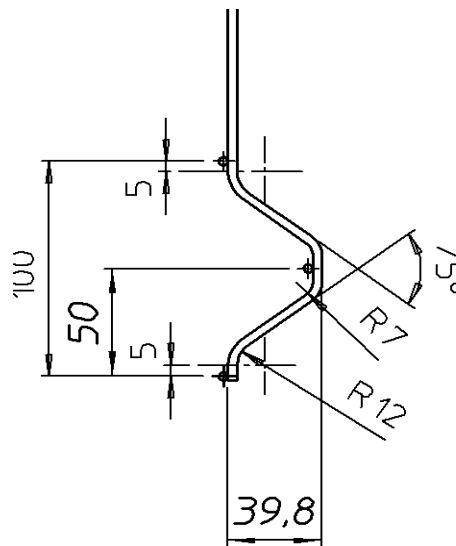

Figure 3
Dimensions of V-shapes: see fig. 3.
- depth : $39,8 \pm 2,0$ mm (see fig. 3)